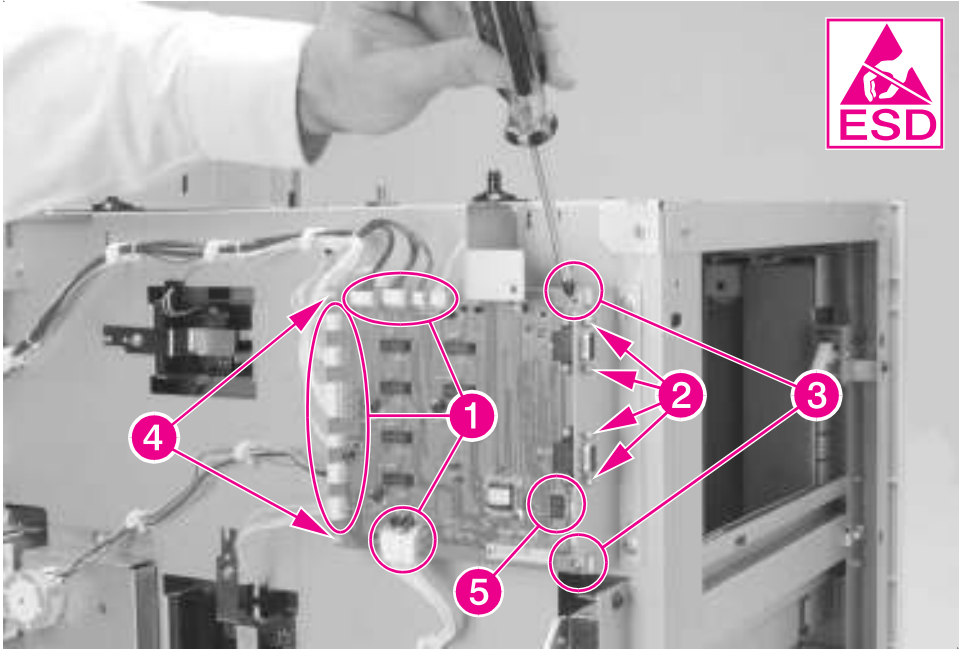

Figure 6-69 2000-sheet Input Tray Controller PCA
- 2 Disconnect the 11 cables from the Controller PCA on the 2000-sheet Input Tray (figure 6-69, callout 1).